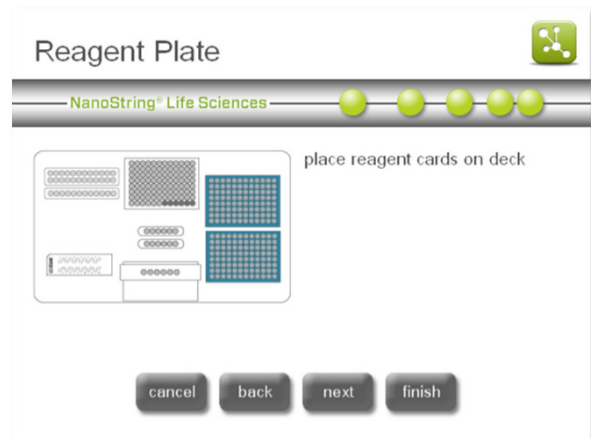

Figure 19: The 'Reagent Plate' screen.
- The 'Reagent Plate' screen will appear (**Figure 19**). Remove the clear plastic lids and place the prep plates on the deck. Make sure plates are oriented with the label facing the operator and that they are flush with the deck surface by aligning the plate on the positioning pin and pressing down firmly near the plate catch (**Figure 20**). If running 6 or fewer lanes, only the front plate needs to be loaded onto the deck. Press **next**.